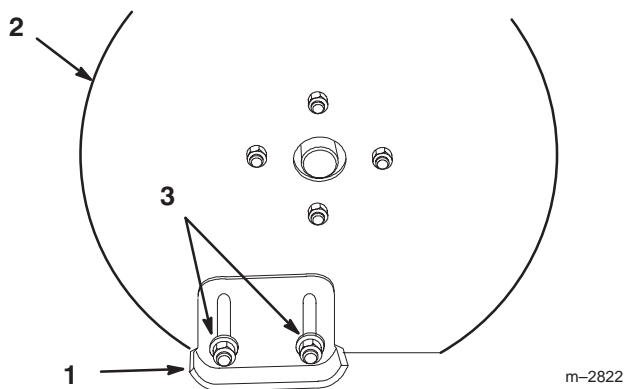

Figure 35
3. Loosen nuts securing skids to the housing until the skids slide up and down easily (Fig. 35).
4. Raise or lower skids equally on both sides, to obtain level scraping action, and tighten nuts (Fig. 35).